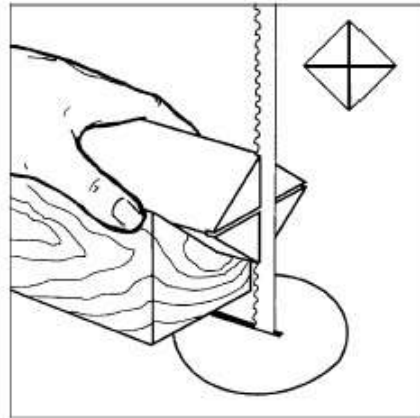

FIG. 4
2. Extremely hard woods may require kerfs cut into the spur drive end of stock, see Figure 4. You may need to drive the spur center into the stock with a wood mallet. **Note:** Never drive stock onto spur while it is mounted in the lathe spindle.